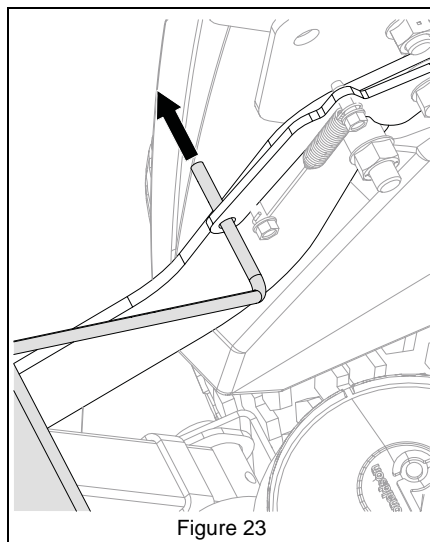

Figure 23
1. Route one end of rope through hole in left bagger arm and tie a knot to secure. See Figure 23.